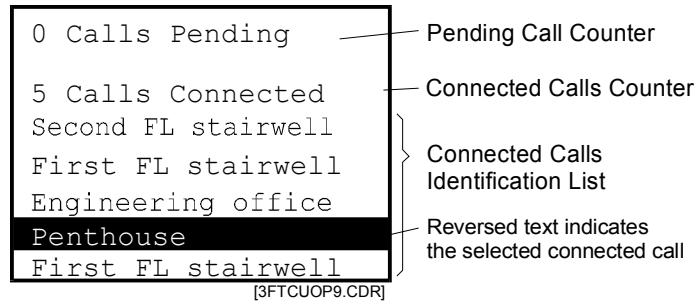

Figure 4-7: 3-FTCU Display, Five Connected Calls
Up to five phone circuits can be connected in a party line connection. A full complement of connected circuits is shown in Figure 4-7.
1. Press the Review Connected switch until the call to be disconnected is displayed in reversed text. In Figure 4-7, the Penthouse phone is selected.